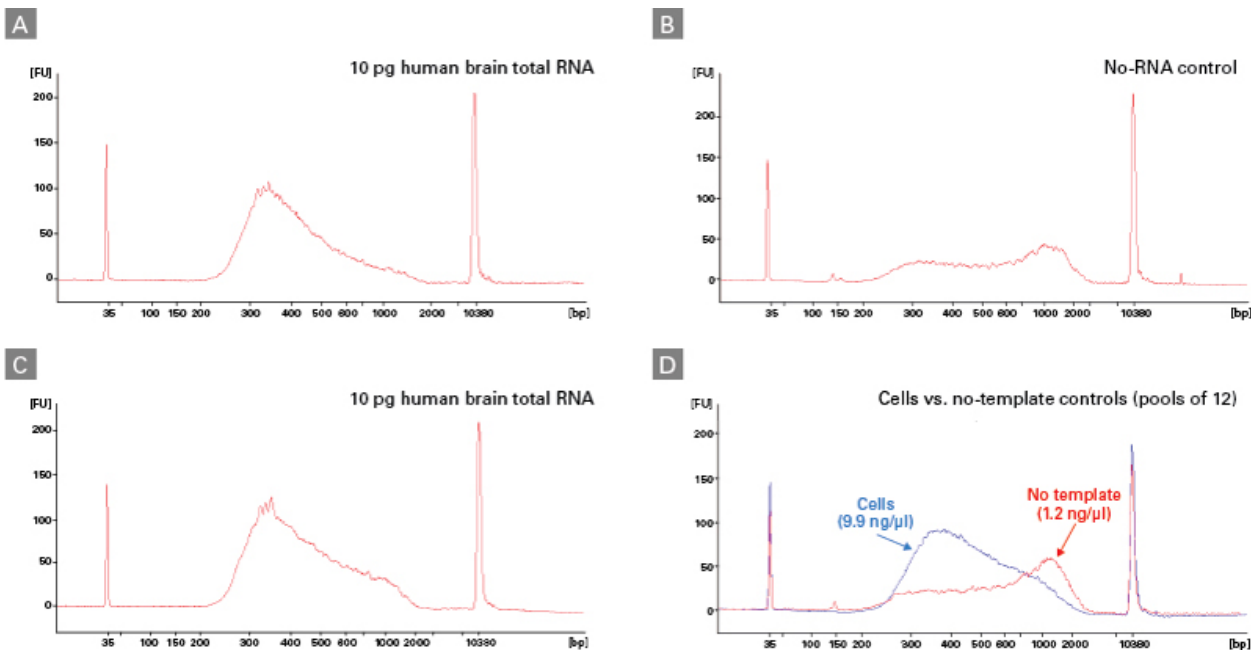

Figure 3. Example electropherogram results from the Agilent 2100 Bioanalyzer. Libraries were generated using 10 pg of Control Total RNA (human brain)
A successful positive control should produce  $>3$  ng/ $\mu$ l of final sequencing library. Its size distribution should span 20–2,000bp with a maximum at ~300–450 bp (Figure 3, Panels A and C) when diluted to 1.5 ng/ $\mu$ l and analyzed with an Agilent 2100 Bioanalyzer using the Agilent High Sensitivity DNA Kit. The size distribution may differ if you overload your chip or use an alternative capillary electrophoresis instrument (e.g., Agilent TapeStation, PerkinElmer LabChip, or Fragment Analyzer).
The negative control samples should show little or no background over the corresponding range (Figure 3, Panel B). Negative controls typically display a higher amount of PCR products between 1,000 and 2,000 bp than between 200 and 1,000 bp (Figure 3, Panel D).
- A small amount of products of this size (such as those seen in the positive control in Figure 3, Panel D) may arise from the final amplification reaction and will not interfere with sequencing.
### 2. My positive control sample has a smear of products smaller than shown in Figure 3, Panel A.